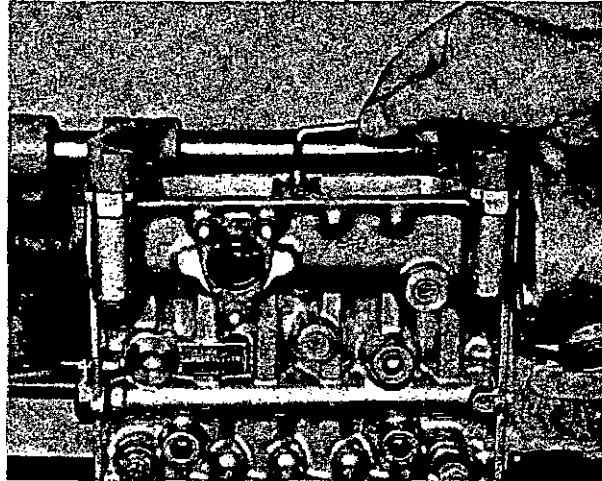

Fig. 8 Removing centre bearing
6. Invert the pump and remove the camshaft centre bearing, which is retained by two socket screws (fig. 8).